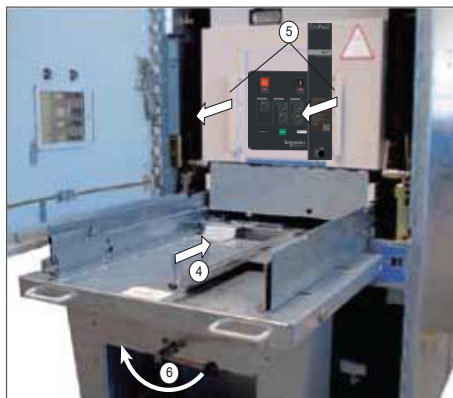

Figure 34
1. Push unlocking bar (Figure 34, 4) forward to its stop.